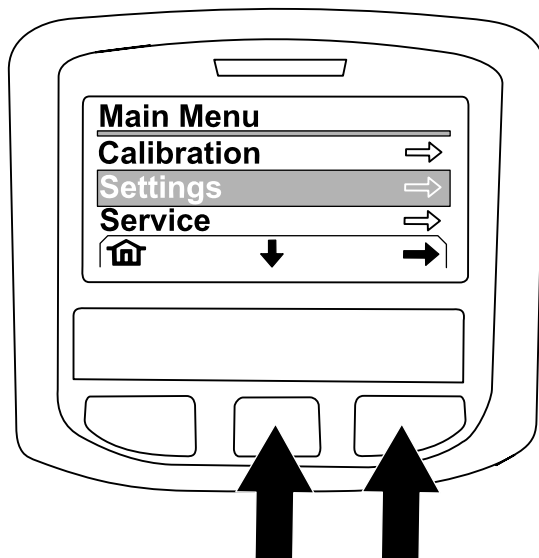

Figure 225
4. At the MAIN MENU screen, press the center button to navigate to the SETTING option, and press the right button to select the option (Figure 225).